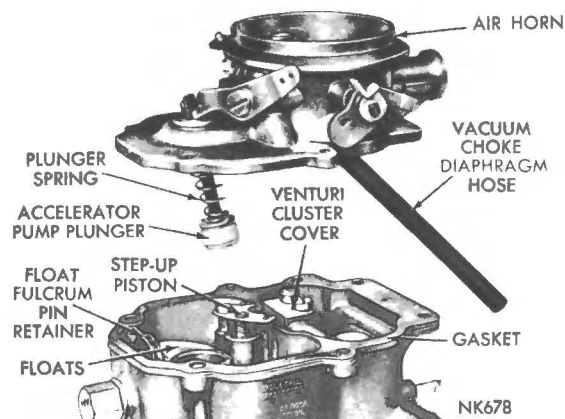

Fig. 1 Removing or Installing Air Horn
(1) Place the carburettor assembly on repair block Tool C-3225.
(2) Remove the hairpin clips and disengage the accelerator pump operating rod. The accelerator pump rod is located in the outer hole of the accelerator pump rocker arm.
(3) Remove the hairpin clip and disengage the fast idle connector rod from the fast idle cam and choke lever.
(4) Remove the vacuum hose between the carburettor main body and the vacuum diaphragm.
(5) Remove the clip from the choke operating link and disengage the link from the diaphragm plunger (stem) and the choke lever. Refer to (Fig. 1).
away from main body, as shown in (Fig. 1). Discard the gasket.